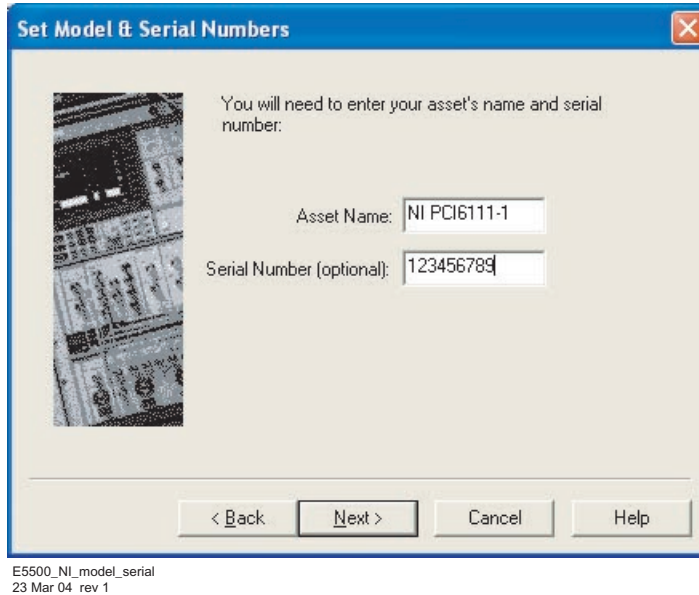

Figure 328 Choose model and serial number
- 6 In the **Set Model & Serial Numbers** box (Figure 328):